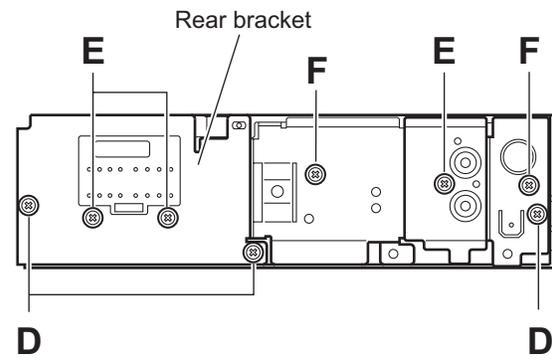

Fig.5
### 3.1.5 Removing the rear bracket (See Fig.5)
### 3.1.6 Removing the main board (See Figs.5 and 6)
- (1) Remove the three screws **D** attaching the rear bracket on the back side of the main body. (See Fig.5.)